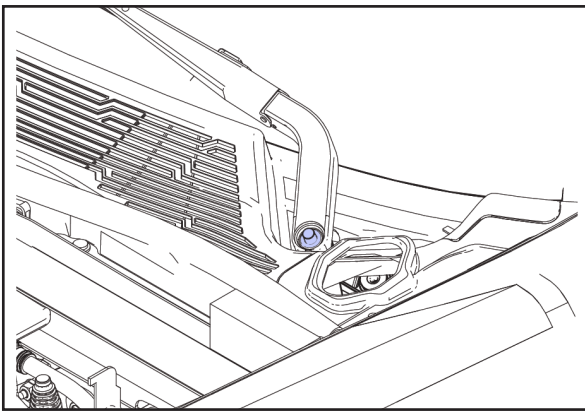

fig.7a
- b. Remove the nut (install torque 25Nm) (fig. 7a)